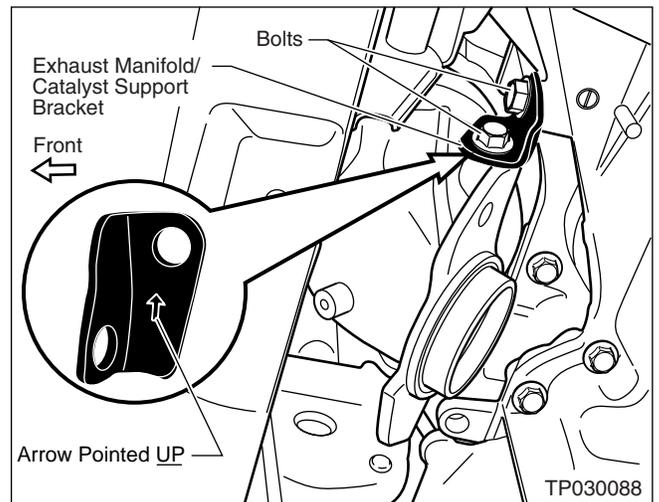

Figure E13
17. Loosen the bolt that secures the bracket to the engine block, and remove the bolt that secures the bracket to the Exhaust Manifold/Catalyst (see Figure E13).